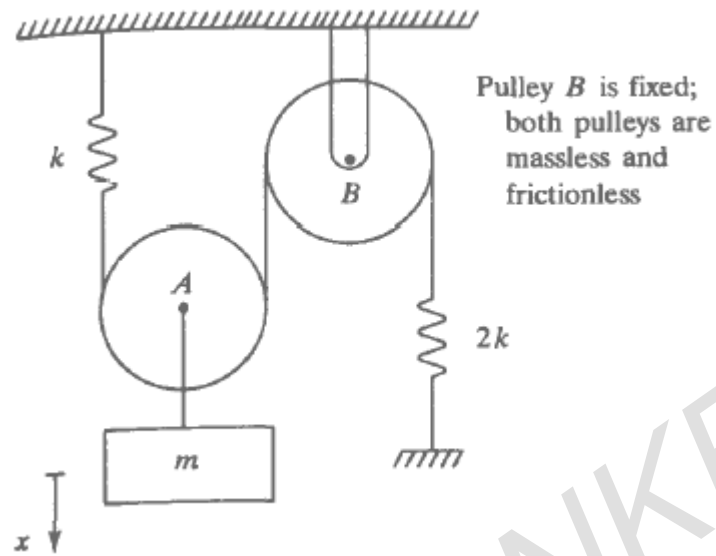

Figure 10:
5. What are the methods of determining natural frequency of vibrating system? Determine the frequency of oscillation for the system shown in below figure 10. [16]